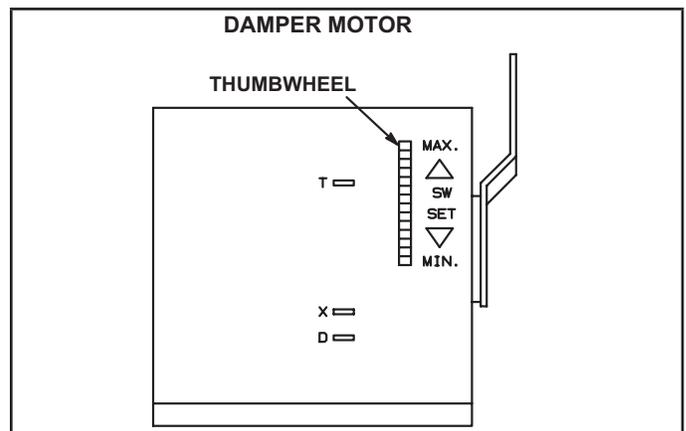

FIGURE 45
- 7 - If fresh air percentage is less than desired, adjust thumbwheel higher. If fresh air percentage is more than desired, adjust thumbwheel lower. Repeat steps until calculation reads desired fresh air percentage. See FIGURE 45.
Set damper minimum position in the same manner as economizer minimum position. Adjust motorized damper position using the thumbwheel on the damper motor. See FIGURE 45. Manual damper fresh air intake percentage can be determined in the same manner.